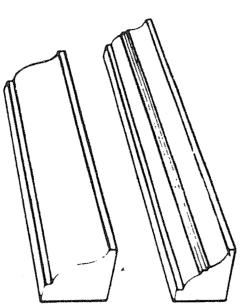

FIGURE 9
**Fig. 9** illustrates two types of molding made with the Router, using the pilot part of the bit to guide it tool along the edge of the work. After the molding is shaped with the Router, a saw is used to cut the molding from the lumber.